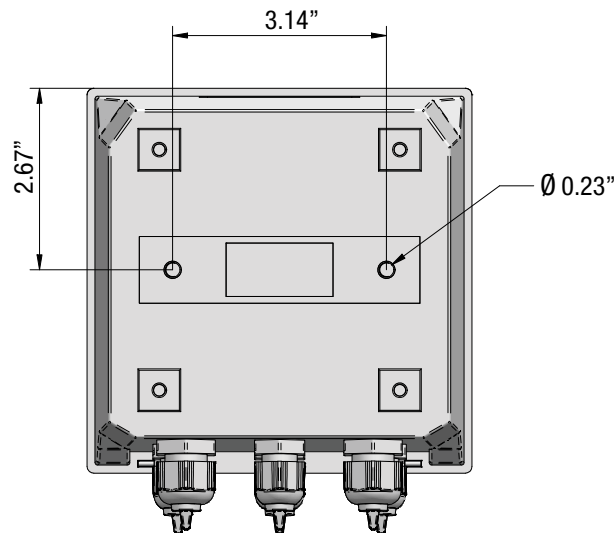

Fig. 4: Drillhole Dimensions
1. Drill the two holes for mounting the device on the wall (see Fig. 4).